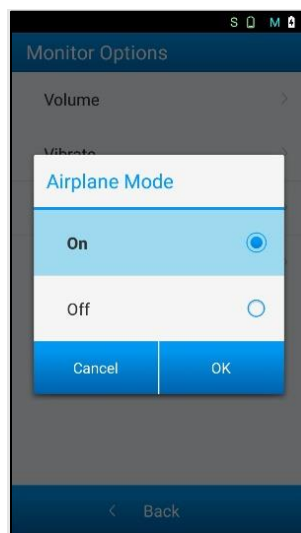
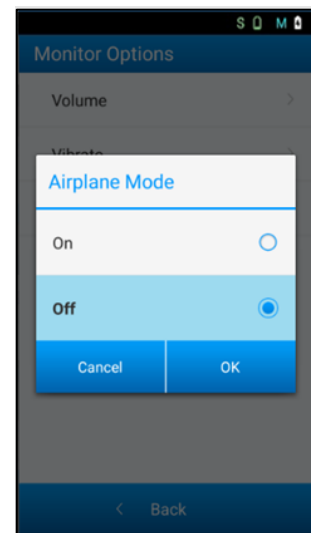

Figure 13.11-2 Enabling Airplane Mode
Figure 13.11-3 Disabling Airplane Mode
- 3) Select Airplane Mode then select ‘On’ to enable (Figure 13.11-2) and ‘Off’ to disable (Figure 13.11-3)